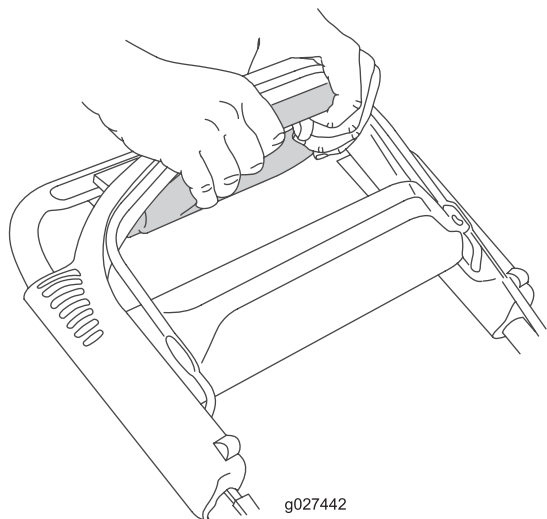

Figure 17
1. Reach forward with your fingertips and grasp the corners of the traction-assist handle (Figure 17).